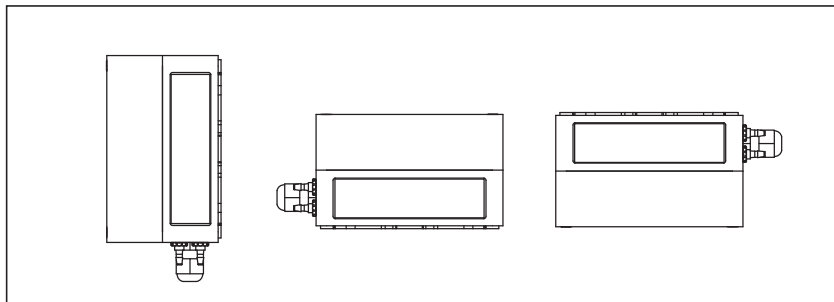
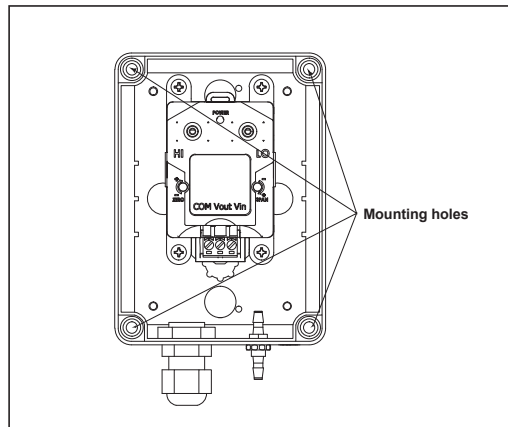

Fig. 3
Fig. 4
The transducer can be mounted in any orientation and should be mounted within six (6) feet of the duct probe (see Figure 3). The mounting holes for the transducer are shown in Figure 4.